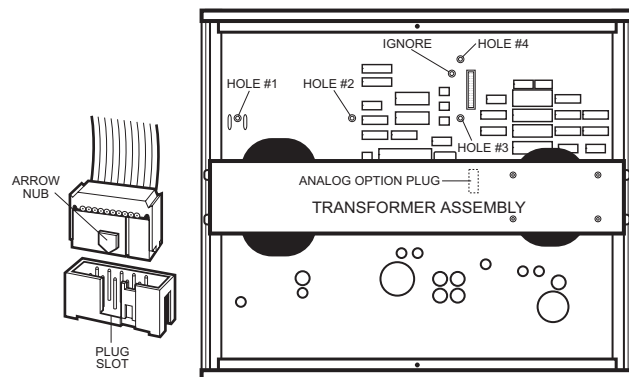

Figure 2. Model 340 Mounting Holes and Analog Option Plug
6. With the instrument still standing on its face, turn it to view the inside circuit board. The upper half of the circuit board above the transformer assembly contains four holes where metal standoffs install (Figure 2).
7. Just beneath the transformer assembly is the analog option plug (J18). Plug either end of the ribbon cable into the analog option plug (J18). Slide the arrow nub into the plug slot for correct positioning (Figure 2).